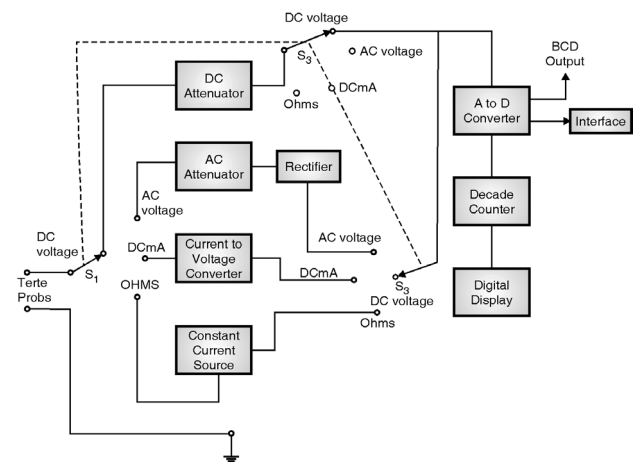

Fig. 1.13.1 : Block diagram of basic DMM
- i. All digital multimeters make use of some type of **analog to digital converter (ADC)**. Generally dual slope integration type AD is used for this purpose. The block diagram of basic digital multimeter is as shown in Fig. 1.13.1.